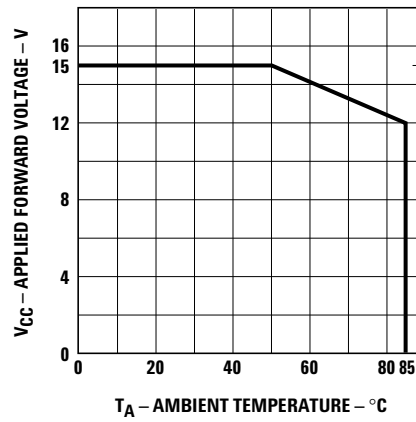

Figure 4. Maximum allowed applied forward voltage vs. ambient temperature $R_{\theta JA} = 175^{\circ}\text{C}/\text{W}$. 12 volt devices.
3. Derate from T_A = 50°C at 0.086 V/°C, see Figure 4.